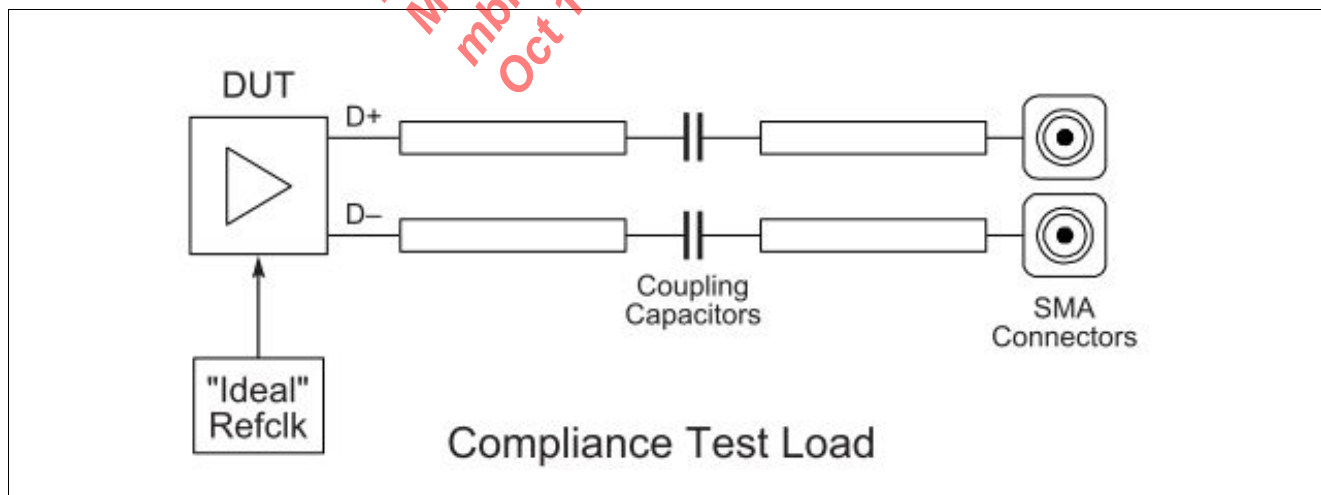
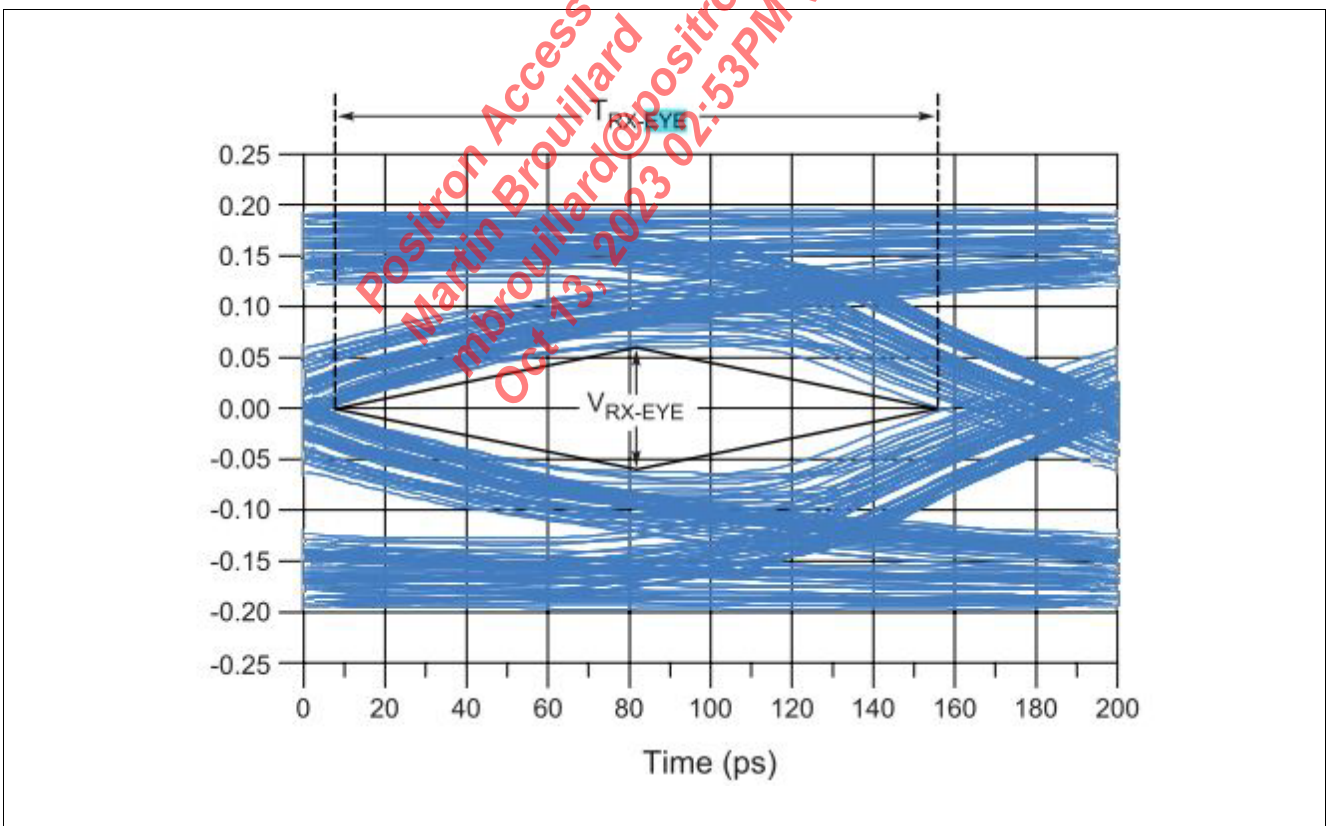

Figure 102 PCIe 2.0 Test/Measurement Load Compliance
Figure 104 PCIe 2.0 Eye Diagram Compliance (at Rx ball)
- 4) Measured between 20-80% at transmitter package pins into a test load as shown in Figure 102 for both V_{TX-D+} and V_{TX-D-} .
- 2) Specified at the measurement point and measured using the clock recovery function. The test load in Figure 102 must be used as the Rx device when taking measurements (also refer to the receiver compliance eye diagram shown in Figure 104). When the clocks to the Rx and Tx are not derived from the same reference clock, the TX UI recovered using the clock recovery function must be used as a reference for the eye diagram.